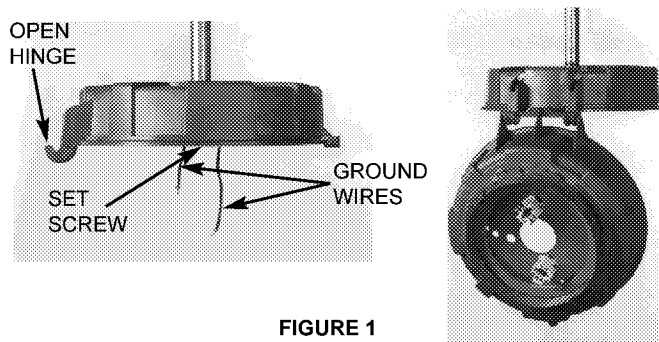

FIGURE 1
- **Pendant and Stanchion mount:** Securely thread onto the appropriate NPT size conduit. Tighten setscrew located in the conduit hub. See figure 1.